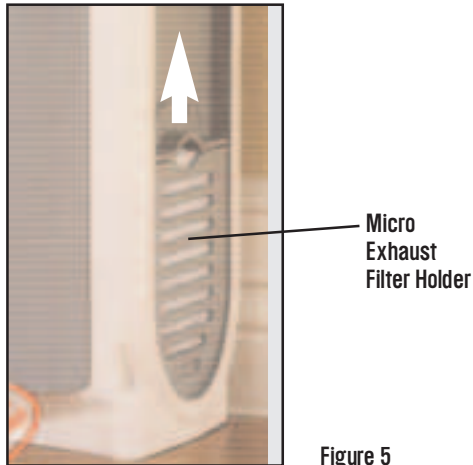

Figure 5
2. Gently pull the Filter out of the Filter Holder. (See Figure 5.)